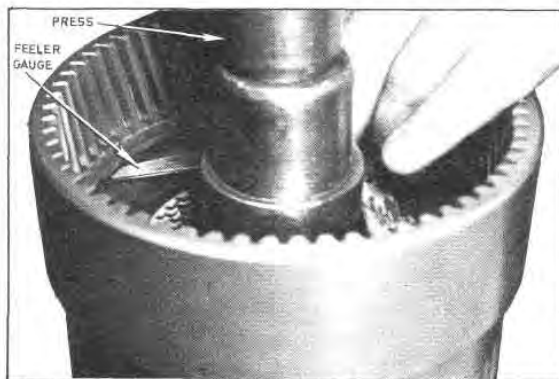

Fig. G64 — Measuring the Gap for the Selective Snap Ring
23. Place the forward clutch and ring gear assembly, with combined parts assembled in steps (12) to (22), on an arbor press and an assembly tool which will support the front face of the ring gear (Figure G64). Using a suitable tool with which to apply force
to the pressure plate, compress the clutch plates against the clutch snap ring (Figure G64).
24. The clearance between the clutch pressure plate and the shoulder of the snap ring groove in the ring gear can be measured with a feeler gauge as shown in Figure G64.